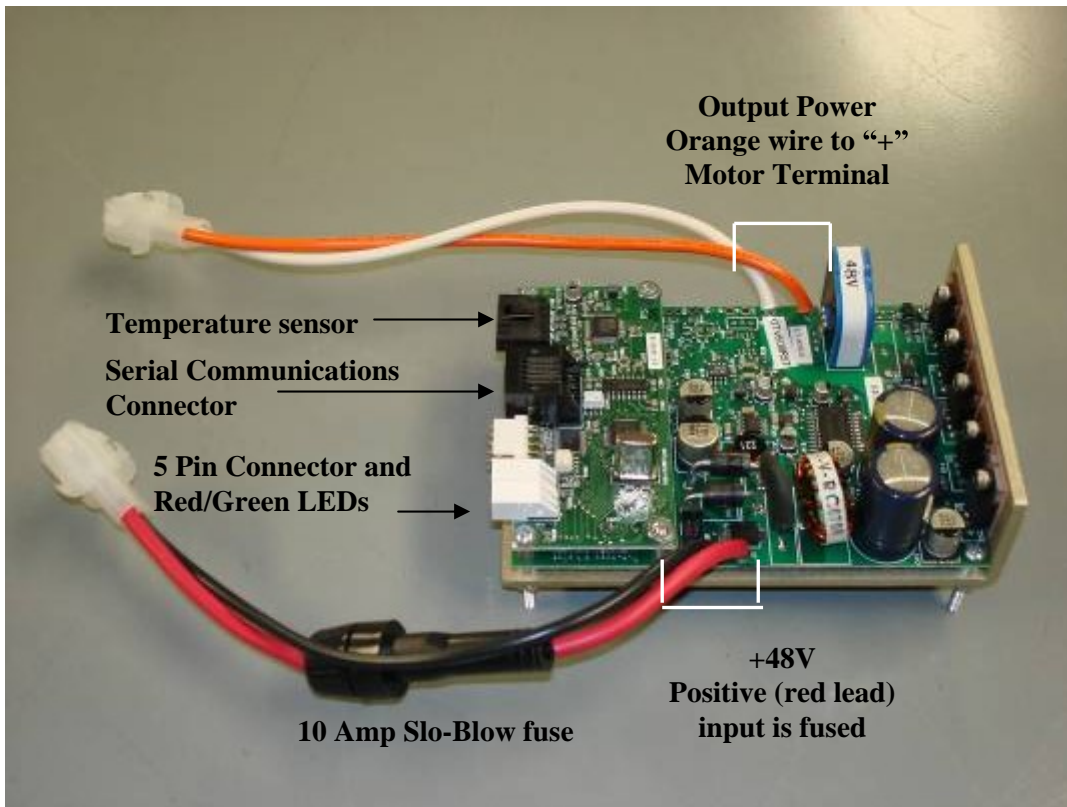

Figure 13: CryoTel GT Control Board
- a. The cold tip temperature sensor must be connected to the controller's mating connector as described previously using the provided cable and connector (See Figure 13 for controller connections).
2. Connect the power cables for the CryoTel GT to the controller's mating connector (controller connections in Fig. 13).
- b. Attach the included wire harness to the cooler as shown in Figure 6 then attach the plastic connector at the other end to the connector with orange and white wires on the controller (Fig 13).
The two LED's, shown in figure 13, indicate whether the cooler has reached its set point temperature or if the cooler is still in cool down mode. The red LED will be on as long as the cooler is in cool down mode. When the cooler reaches its set point temperature within 0.5K the green LED will turn on.